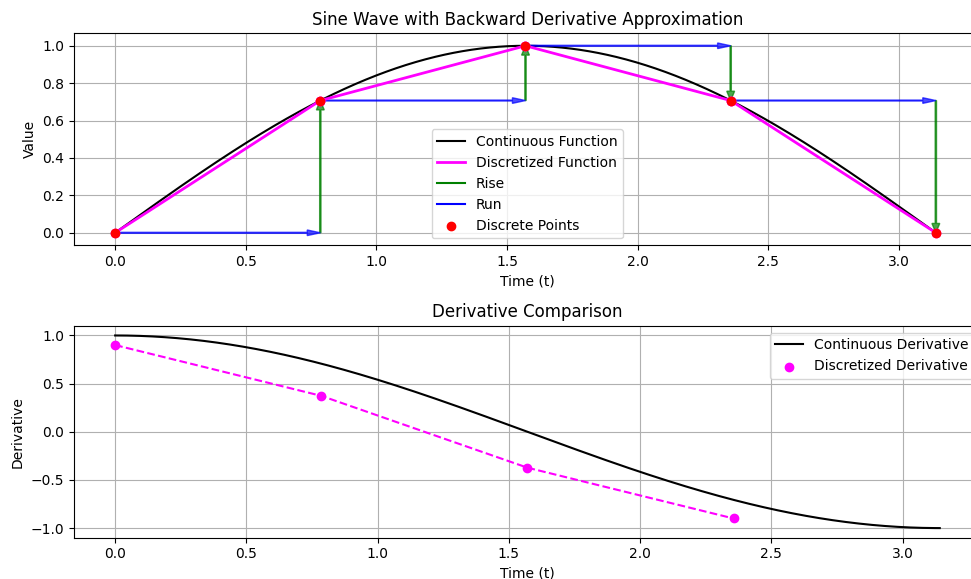

Figure 6: Backward Euler Discretization of the Derivative Term
- The derivative term is the rate of change of the error, and can help reduce overshoot. To approximate this derivative, we use the Backward Euler method, which calculates the derivative (slope) as the difference between the current error and the previous error, divided by the timestep (slope = $\frac{\text{rise}}{\text{run}}$). See Figure 6 for a visual representation of the Backward Euler method.